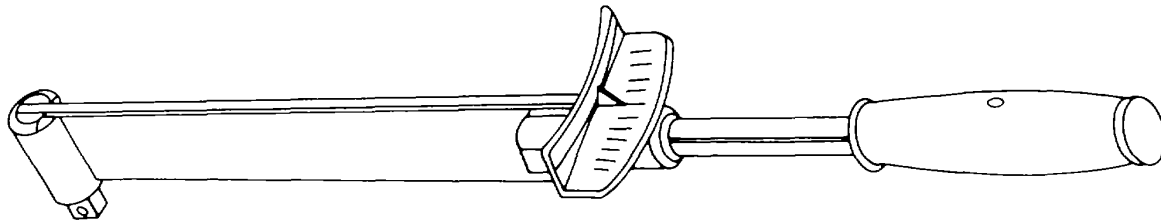

Figure 8-5. Type I, Class 1, Style A Torque Wrench - Deflecting Beam with Indicator Plate (Direct Reading)
a. Types. In aircraft maintenance applications, the rigid frame with the indicating dial and the audible indicating torque wrenches are used in preference to the flexible beam-type wrench. The audible-indicating torque wrench is preferred since it can be used in places of limited accessibility where it would be difficult to read a dial or scale while performing the tightening operation. For the combinations of features available in torque wrenches, see figures 8-5 through 8-14.